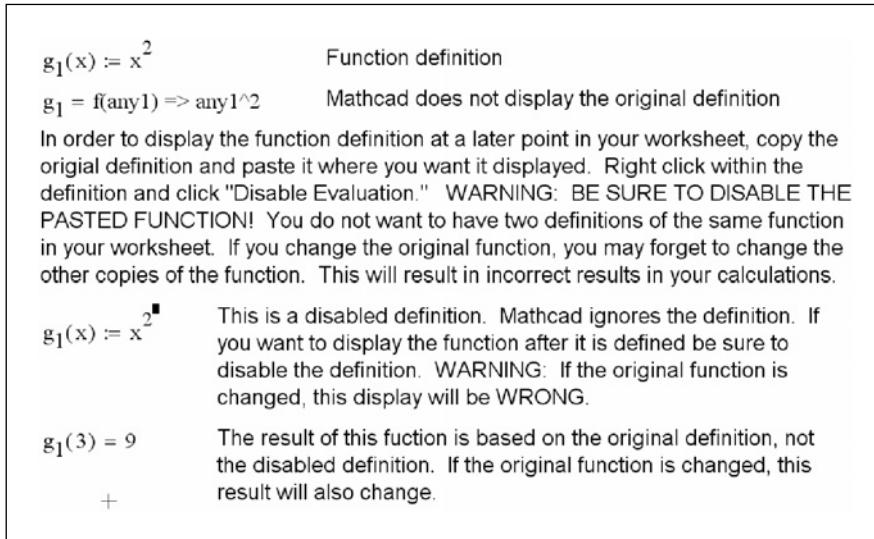

Figure 3.19 How to display a function definition later in your calculations
- Once you define your user-defined function, you will not be able to display the function definition again in your worksheet. If you type the name of the function and an equal sign, Mathcad does not display the function. See Figure 3.19. This may make it difficult to remember exactly what the function definition was. You must also remember what order the arguments go in. One option for displaying the user-defined function definition later in your worksheet is to copy the function definition and paste the definition where you want it displayed. This essentially redefines the function to the same definition. Now right-click within the pasted version of the definition and click on **Disable Evaluation**. This will disable the redefinition of the user-defined function. You may wonder, why worry about it? You get the same answer as before because it is the same definition. The problem comes if you later redefine the original user-defined function. Mathcad will use the value of the changed function until it comes to the point in your worksheet where you pasted the original function. From this point on, Mathcad will use the old function definition. By disabling the function definition, Mathcad continues to use the new version of the function. However, Mathcad still displays an old version of the function. This may lead to some confusion in your calculation, but not an incorrect answer.